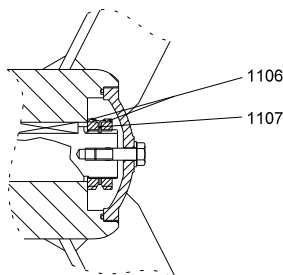

Fig. 7 Shaft nuts on propeller shaft
When mounting the hub/propeller, use lock washer (pos. 1107), and tighten the two shaft nuts (pos. 1106) to a torque of 50 Nm. See fig. 7.